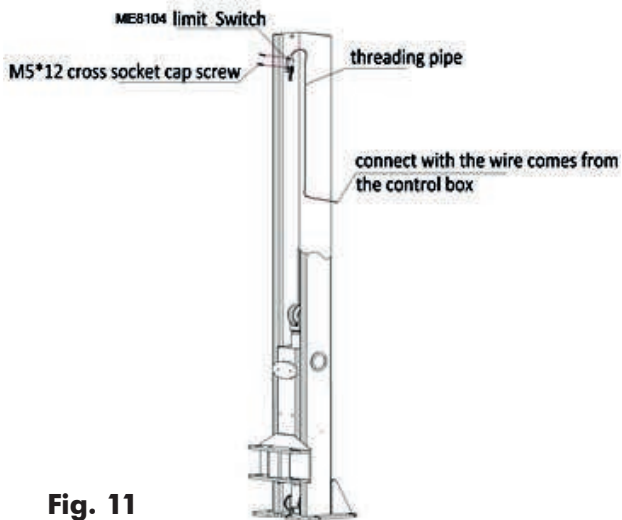

Fig. 11
2. Fix the limit switch into the power side post (**fig. 11**)